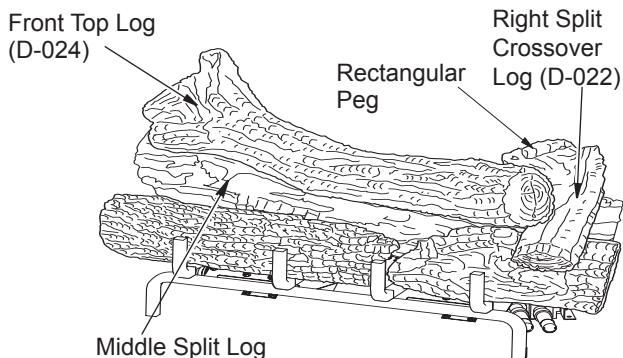

Figure 25 - Installing Front Top Log
7. Find the front top log (D-024). See Figure 25. The left end of this log has a square hole that fits over a square peg that is on the top of the middle split log. The right end of this log rests behind the knot on the top of the front right log.